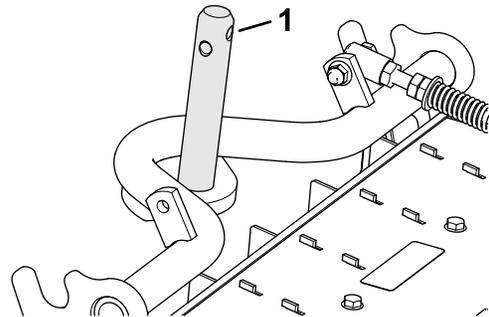

Figure 8
4. Coat the carrier-frame shaft with clean grease (Figure 8).